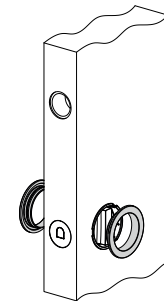

Fig. 5
5. Place the plates, round or square, pressing them until their stop clamping into the holders and against the surface of the panel (Fig. 5).